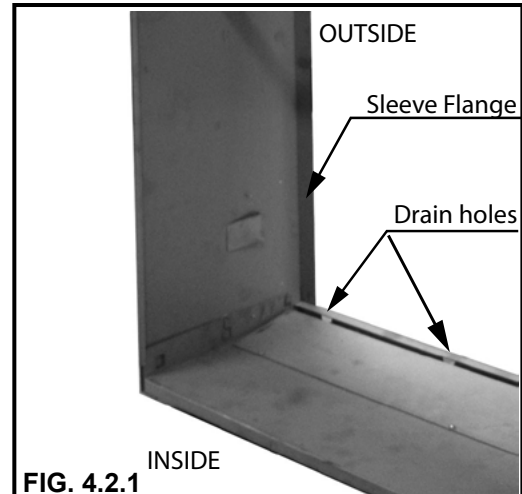

FIG. 4.2.1
- DURING THE WALL SLEEVE ASSEMBLY PAY ATTENTION THAT THE SIDE PANEL FLANGES AND THE BASE PANEL DRAIN HOLES ARE ON THE SAME SIDE OF WALL SLEEVE, SEE FIG 4.2.1.